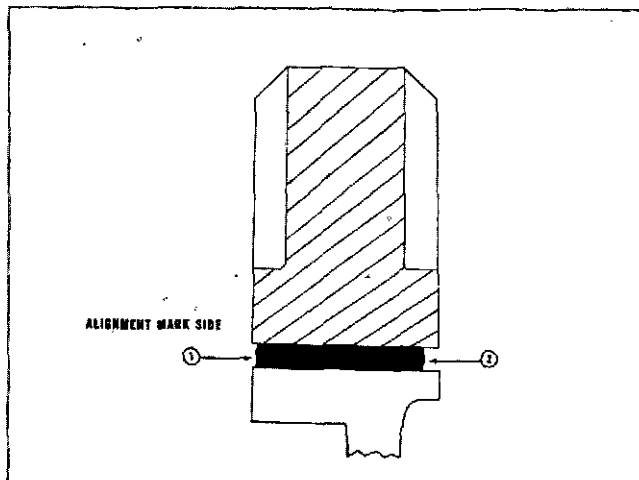

Fig. 1-6-1, V40165, Fail Damper
a. If the cavity depth (1, Fig. 1-6-1) exceeds 1/8 inch [0.1250 mm] all the way around, the damper must be considered failed.
b. If the cavity depth (2) exceeds 3/8 inch [0.3750 mm] all the way around the damper, the damper must be considered failed.